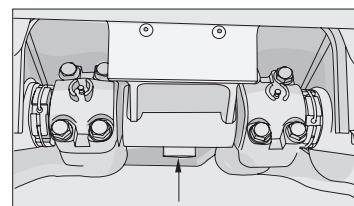

Figure 4-27
- Remove the drain plug on the bottom of the body (the arrow in Figure 4-27) to drain the oil, and tighten the drain plug again after draining the oil.